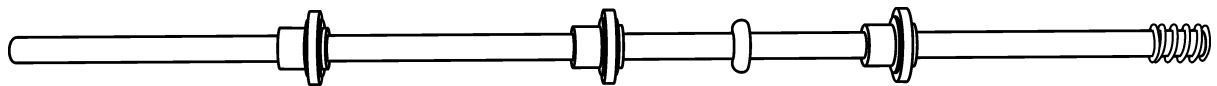

Figure 1
2. Remove the Pinch roll shaft assembly by pressing it to the rear side according to figure 1.